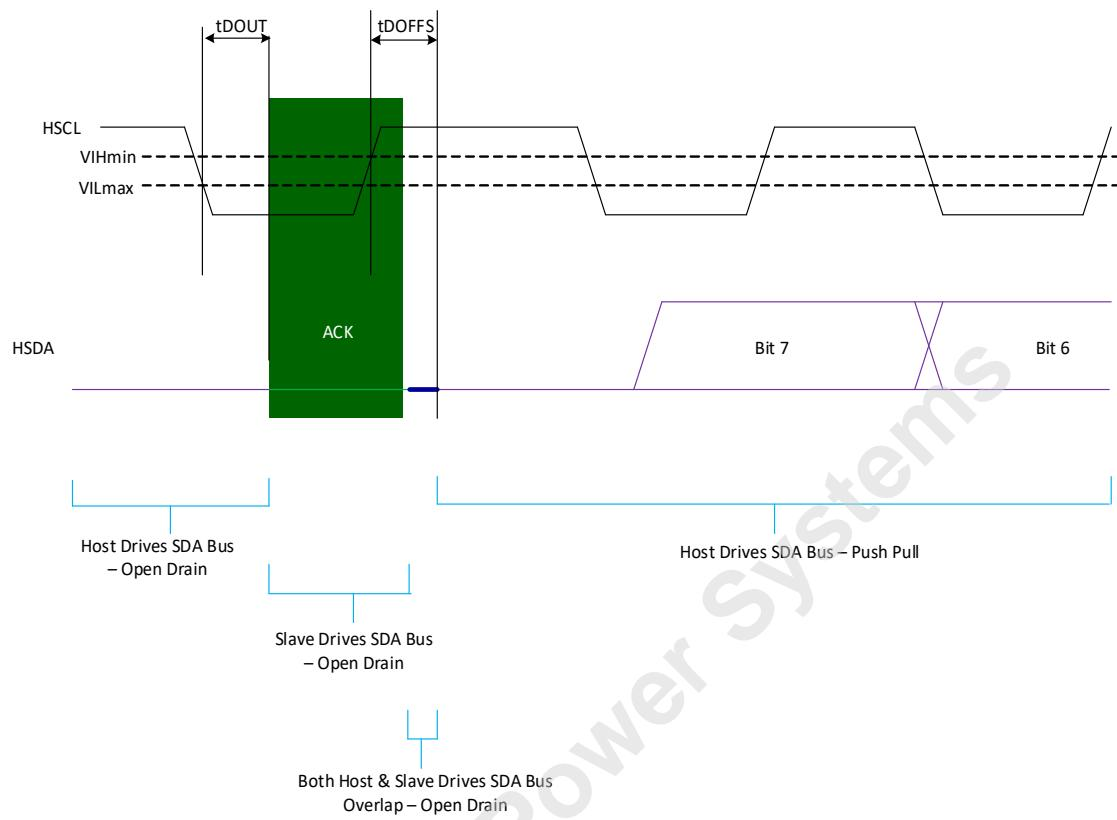
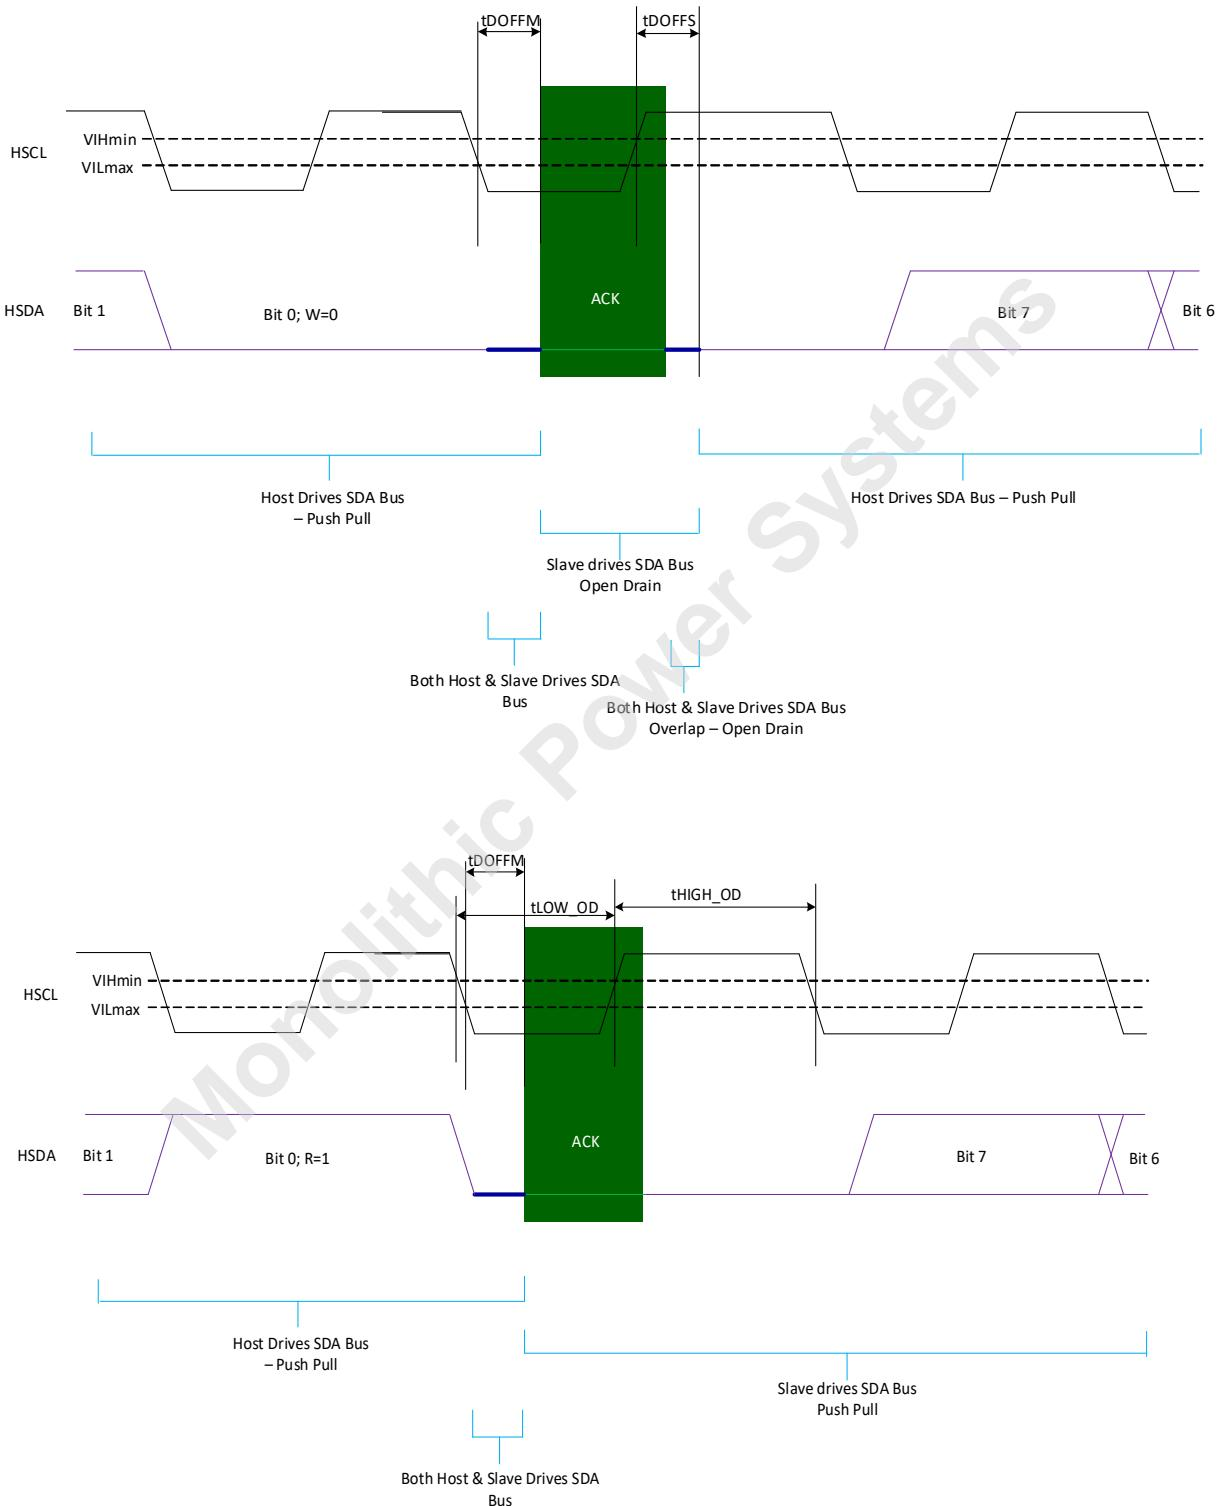

Figure 2 — Slave Open Drain to Host Push Pull Hand Off Operation
Figure 4 — Master Push Pull to Slave Open Drain Hand Off Operation
1. See Figure 2 to see how the transition occurs from Slave Open Drain (ACK) to Host Push Pull Operation (1st bit of Addr, bit [7]).
5. See Figure 4 to see how the transition occurs from Host Push Pull Operation to Slave Open Drain (ACK).
1. See Figure 2 to see how the transition occurs from Slave Open Drain (ACK) to Host Push Pull Operation (Repeat Start)
2. See Figure 4 to see how the transition occurs from Host Push Pull Operation to Slave Open Drain (ACK) and see Figure 2 to see how the transition occurs from Slave Open Drain (ACK) to Host Push Pull Operation (1st bit of Addr, bit [7]).
1. See Figure 2 to see how the transition occurs from Slave Open Drain (ACK) to Host Push Pull Operation (Repeat Start).
3. See Figure 4 to see how the transition occurs from Host Push Pull Operation to Slave Open Drain (ACK).